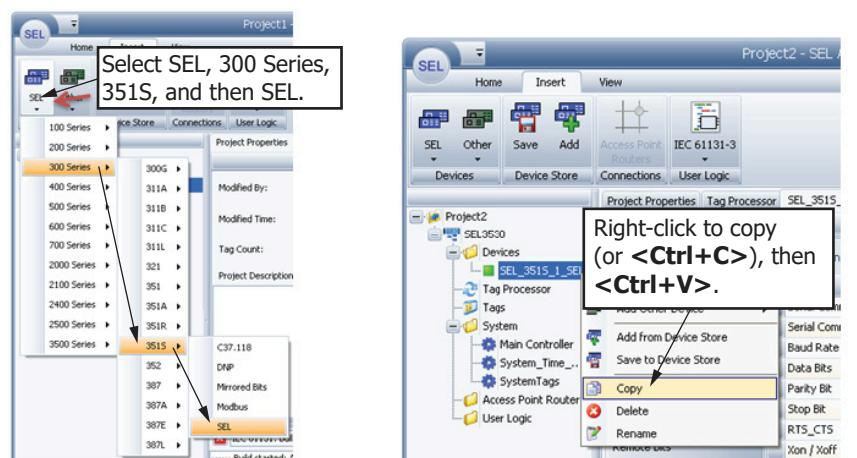

Figure 4.1 Configure Four SEL Access Points
- Step 4. Right-click on the inserted relay, select **Copy**, and then paste the copy on Devices. Paste three copies for a total of four SEL-351S IEDs for this example. Rename the copies as shown in *Figure 4.1*.